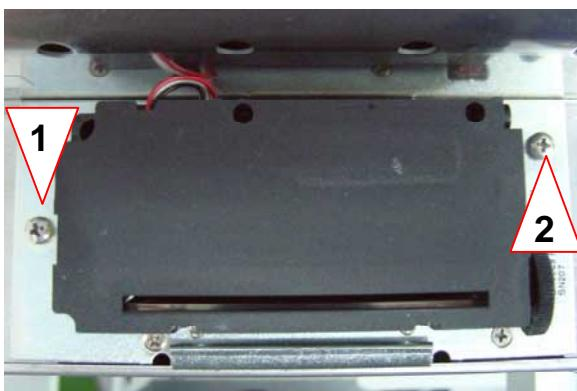

Fig. 3-45 Printer mounting screws
4. Remove the printer mounting screws (see Fig. 3-45, 1 and 2).